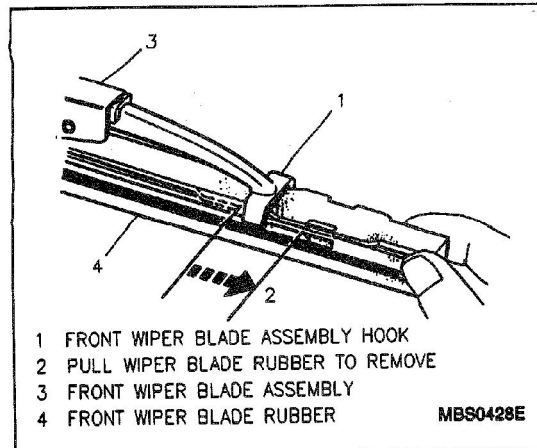

Figure 3—Wiper Blade Rubber Removal
Figures 3 and 4
- Pull the front wiper blade rubber out of the wiper blade assembly hooks (Figure 3).